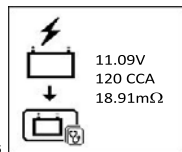
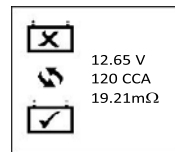

Fig.36
Fig.37
3. Check the battery ratings and enter it as described earlier and the results will show as an example below: (Fig. 36 and Fig.37)
Fig.36- Results shown [Recharge and test again], it indicated that the battery has to be fully charged first before repeating the test. Reason: State of Charge: 11.09V is too low.
Fig.37 - Results shown [To replace], this meant that the battery need to be replaced as its internal plate resistance [Int. R] 19.21mΩ is higher than 15mΩ limit.